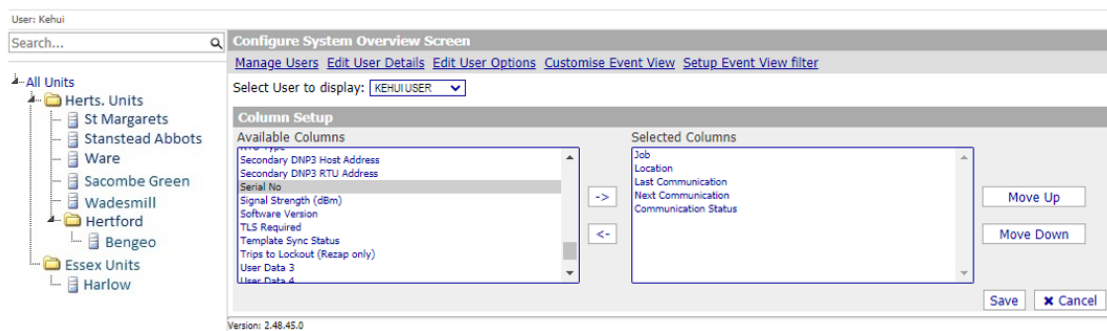

Figure 12.3 Column editing screen
By clicking on the column editing button (③ in figure 12.2), the screen shown in figure 12.3 appears which allows the display to be customised. Most of the available columns are not relevant to the T-P22, however if the user does want to add one, it is highlighted in the “Available Columns” list.